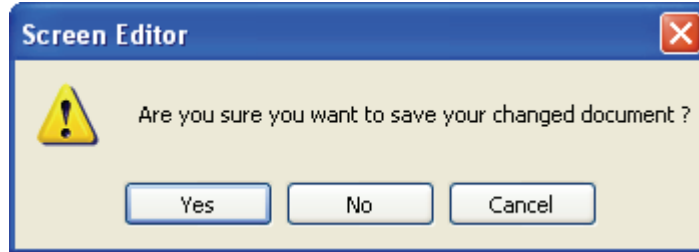

Fig. 2.3.6 Saving dialog box
1. If project didn't get saved before issuing the command of closing project, the user will get saving dialog box (Fig. 2.3.6) to remind the user of saving project.
Exit function is to close all open editing files and offer to save those that have not been save yet and finally exit the ScrEdit. Select this function by clicking **File > Exit**. If the file has been changed or not saved yet, the saving dialog box (Fig. 2.3.6) will show up to remind the user of saving project. If the user press **Cancel** button at this time, the exit command is cancelled. Either pressing **Yes** button to save the file, or pressing **No** button not to save the file can exit the ScrEdit. After the user press the **Yes** button, the Save As dialog box will appear (Fig. 2.3.7) for saving the file.